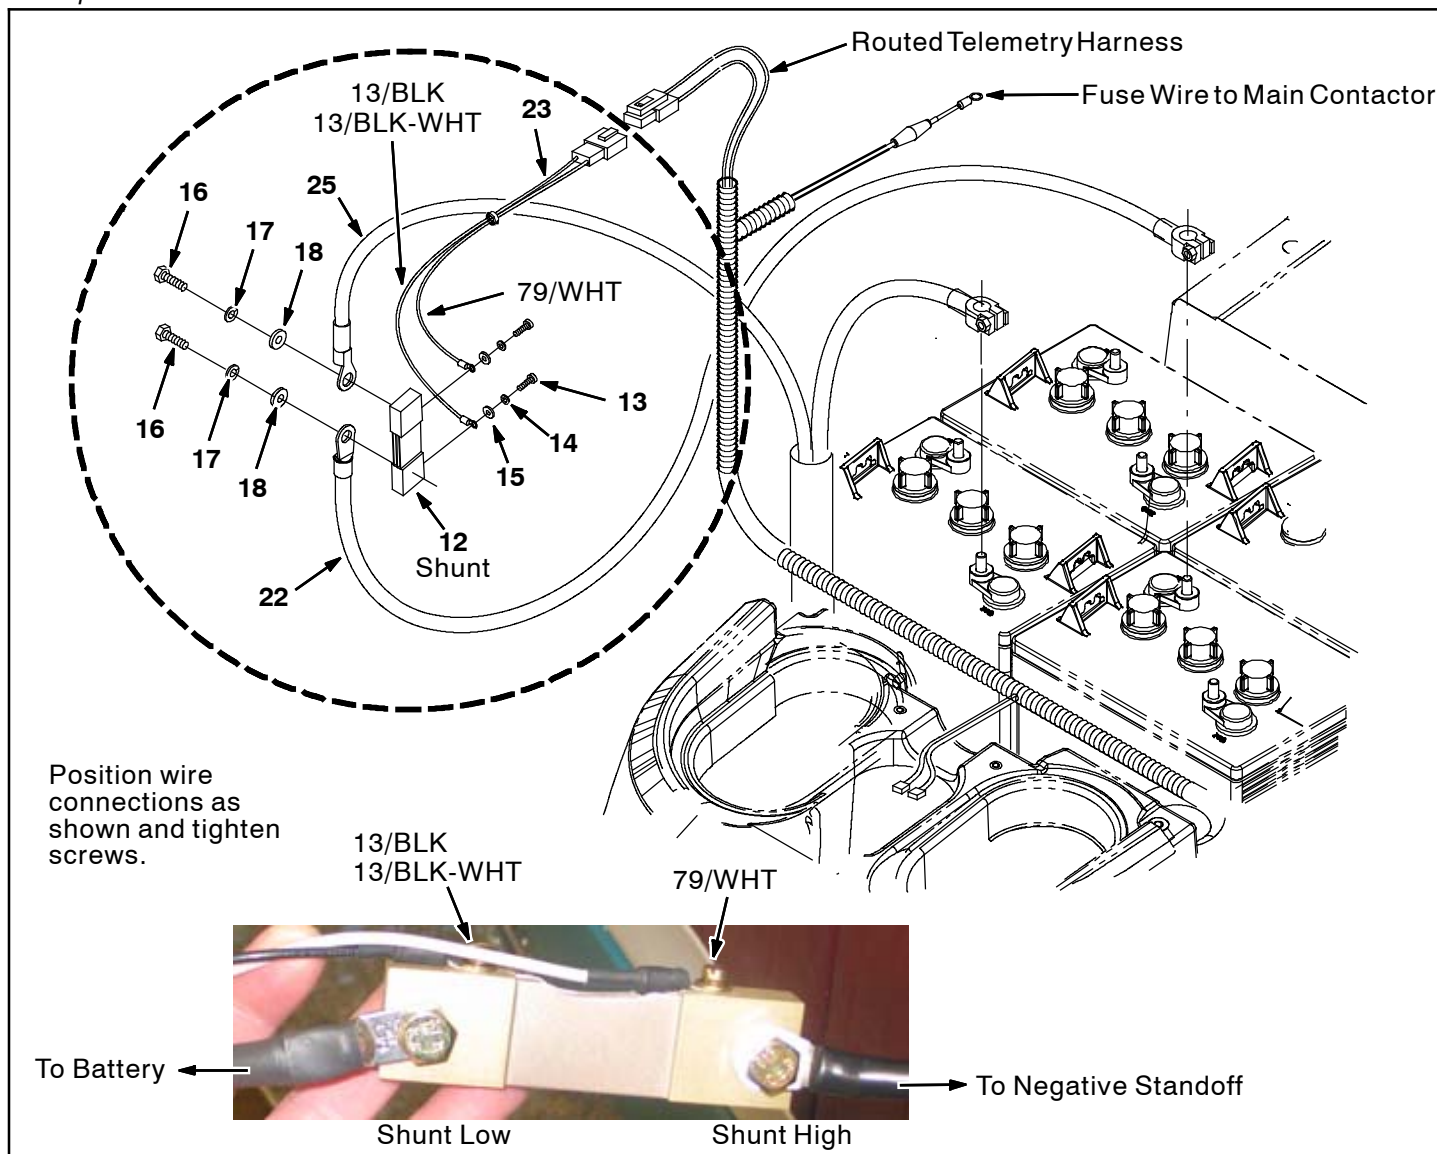

FIG. 19
22. Using the following hardware, connect battery cables (22, 25) and the small telemetry harness (23) to shunt (12) as shown (FIG. 19).